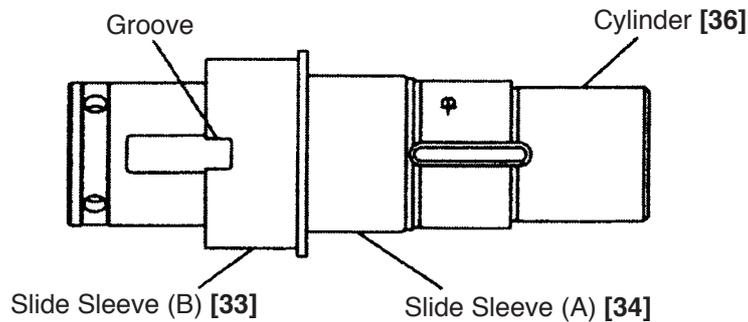

Fig. 24
(3) Mounting components in the Cylinder [36]
Fit Slide Sleeve (A) [34] and Slide Sleeve (B) [33] on the outer circumference of the Cylinder [36] and move Slide Sleeve (A) [34] and Slide Sleeve (B) [33] until they contact the outside flange of the Cylinder [36]. At this time, align the slotted hole of the Cylinder [36] with the groove of Slide Sleeve (B) [33]. (Fig. 24)